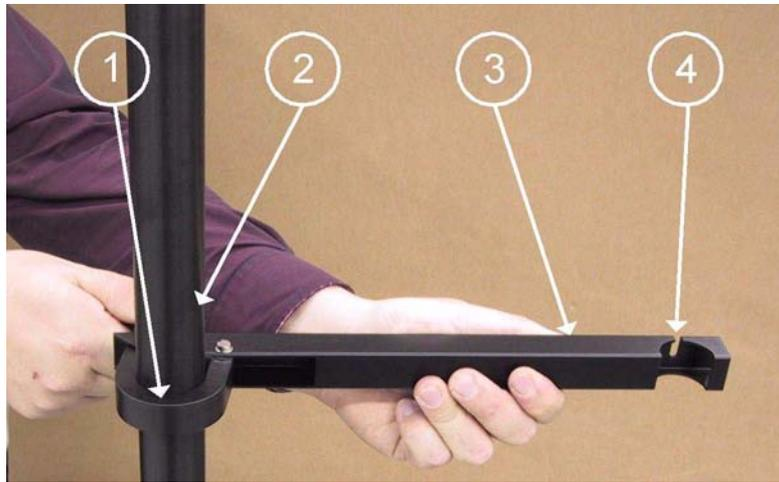

Figure 39 Installing UHF Antenna Arm
- a. Attach the antenna arm (number 3 in Figure 39 on page 50) to the mast. Select a desired height (preferably as high as possible). The antenna arm cannot be attached above the locking latch of the mast. Assemble the hook (1) around the mast. The notch (4) in the end of the arm must face up. Turn the arm counterclockwise and secure the arm with the hand screw (2, behind the mast in the figure). Before tightening, turn the arm so that there will be a line of sight between the station antenna and the remote antenna. The mast must not be between the antennas! The antenna must not be over Rain Gauge QMR101M or Present Weather Detector PWD22M.